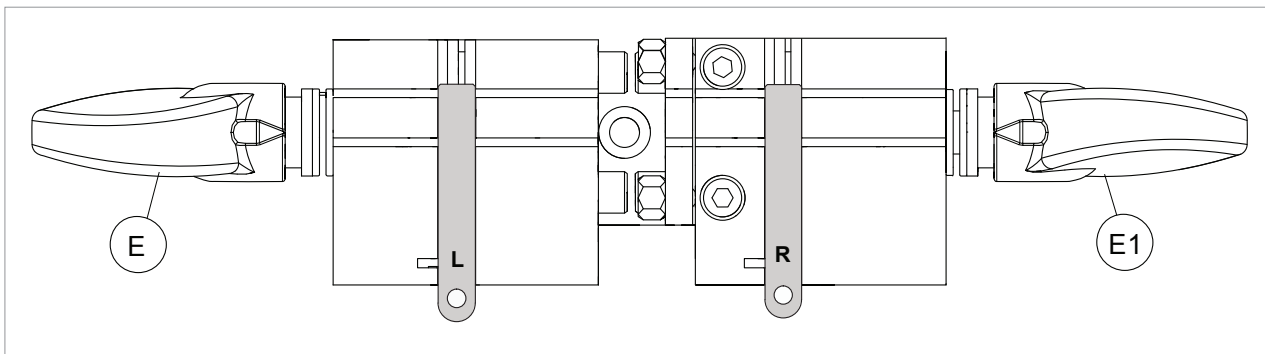

Fig. 16
- 1) Turn off the motor with switch (Q).
- 2) Fit the “L” calibration bar into the left-hand clamp (tracer side) and lock with knob (E) (Fig. 16).
- 4) Lock nuts (H2) and (O).
- 5) Slightly loosen the grub screw (M) locking the tracer. Pull down the tracer point approx. 4 mm.
- 6) Use lever (J) to lower the vertical carriage and take the tracer and cutter into contact with the two bars.
- 7) Tighten the tracer grub screw (M).